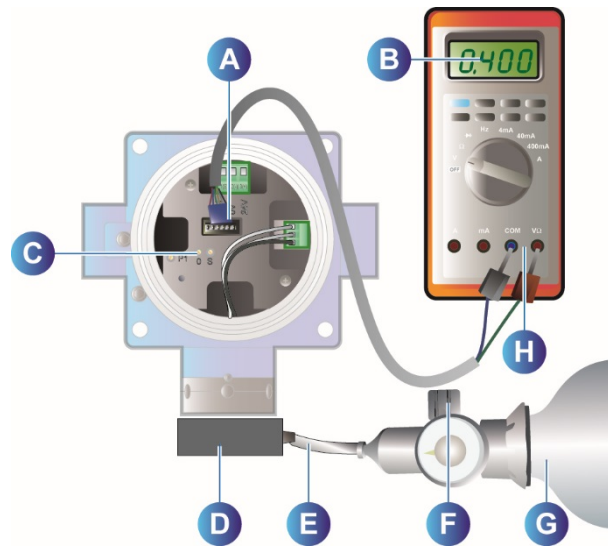

Figure 14: Zeroing and Sensitivity adjustment (OLCT 100)
2. Insert the blue and green plugs on the measurement lead into the + and - multimeter sockets, respectively (Figure 14, "H").
2. Insert the blue and green plugs on the measurement lead into the + and - multimeter sockets, respectively (Figure 14: Zeroing and Sensitivity adjustment (OLCT 100), "H").